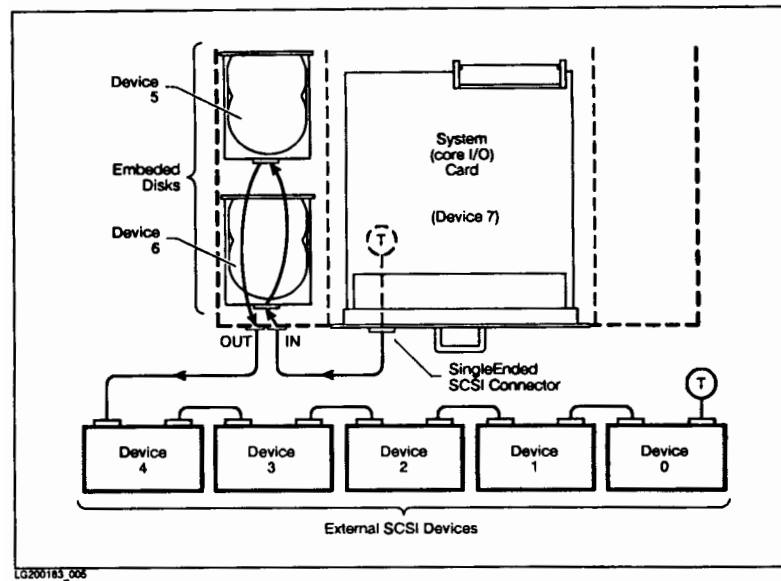

Figure 2-1. SCSI Device Configuration Scheme
Figure 2-1 illustrates the SCSI device cabling scheme. A built-in SCSI terminator, shown as (T) on the System (core I/O) card of Model 720/730 systems, provides termination for the single-ended SCSI connector on the bulkhead.
- Ensure that each SCSI device has a unique number (address) between 0 and 6. The host is always address 7. The C1700A, Magneto Optical Disk Autochanger, requires three (3) addresses: one for the autochanger, and one for each of its two drives.
- Ensure that the last device in the chain of devices is terminated with the proper (single-ended vs differential) SCSI terminator, shown in Figure 2-1 as (T) on SCSI device 0.